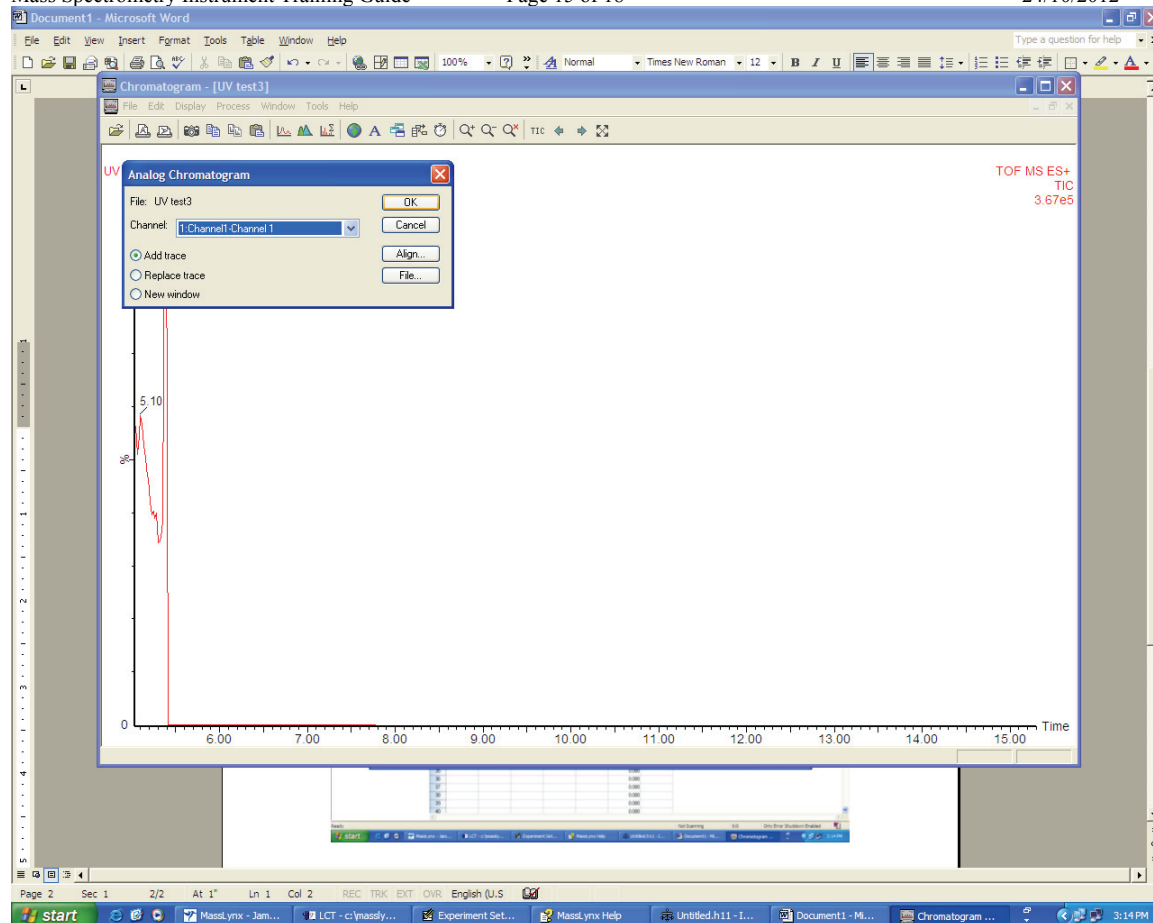

Figure 17: Choose channel 1 to view UV trace.
4.5 Choose analogue channel 1 to display the channel which collected the UV data (Figure 17)